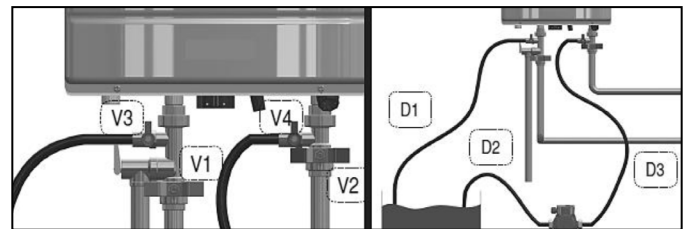

Figure 60 - Flushing the Water Heater
2. Close the shutoff valves on both hot water outlet and cold water inlet lines (V1 and V2). See Figure 60.
3. Connect one hose (D1, Figure 60) to the valve (V3) and place the free end in a bucket. Connect one of the hoses (D3) to the circulation pump outlet and the cold water inlet line to valve V4. Connect the other hose (D2) to the circulation pump inlet and place the free end in the bucket.